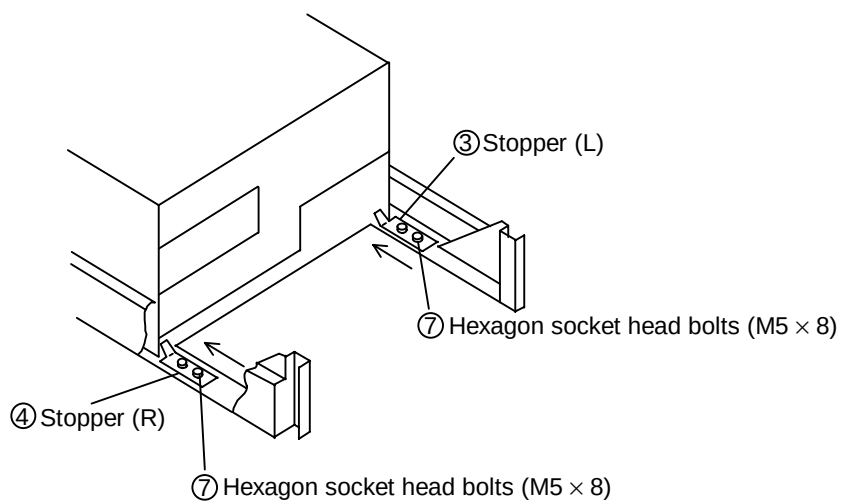

Figure 2.4.7 Securing the Rear Side of the Subsystem
2.4.7 Securing the rear side of the subsystem (See Figure 2.4.7.)